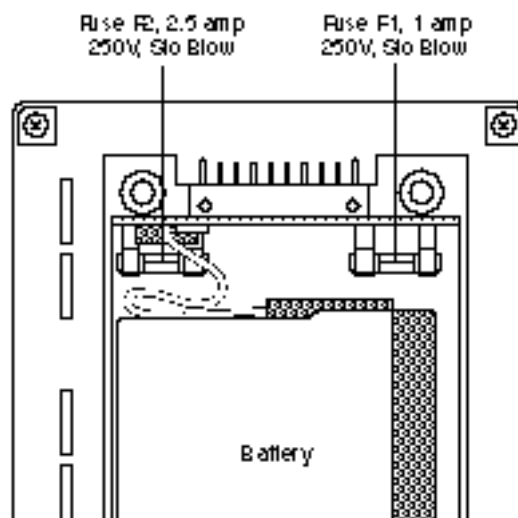

Figure 6-3: N-3000 Fuses
2. Replace the fuses as shown in Figure 6-3 with equivalent replacements.